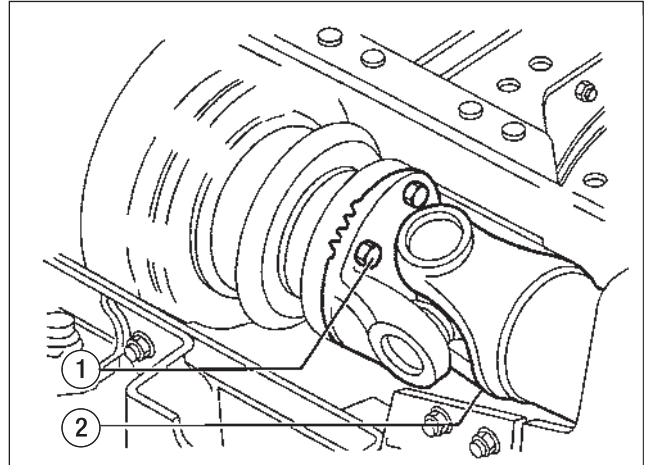

Fig. 4.1
1. Unscrew the nuts (1) securing the propeller shaft to the differential companion flange.
2. Disconnect the propeller shaft (2) and secure it to the chassis. (Fig. 4.1)